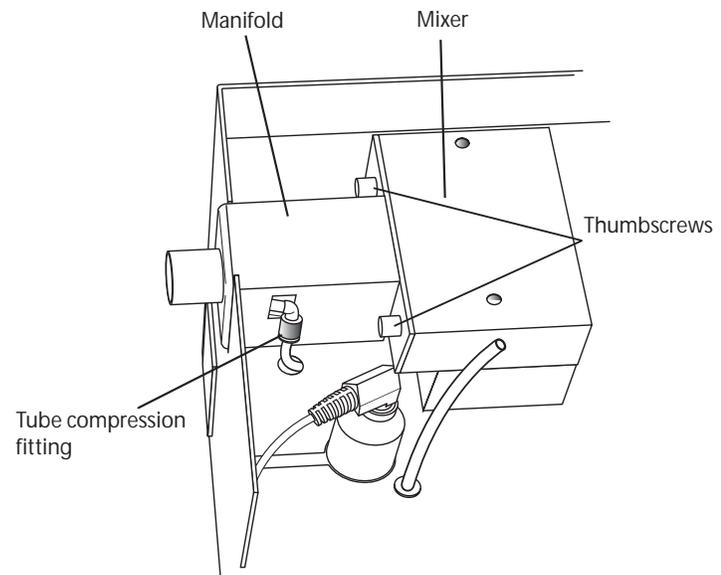
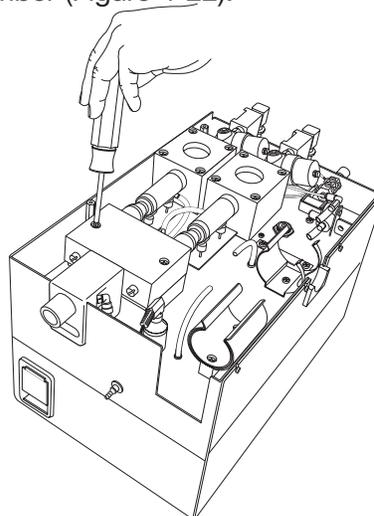
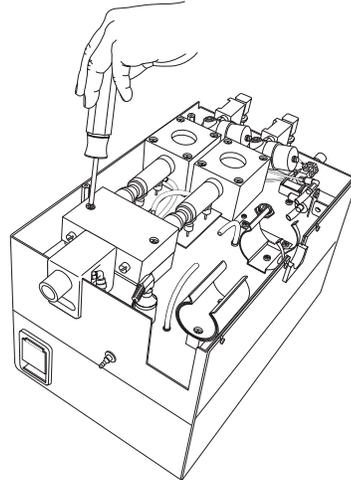
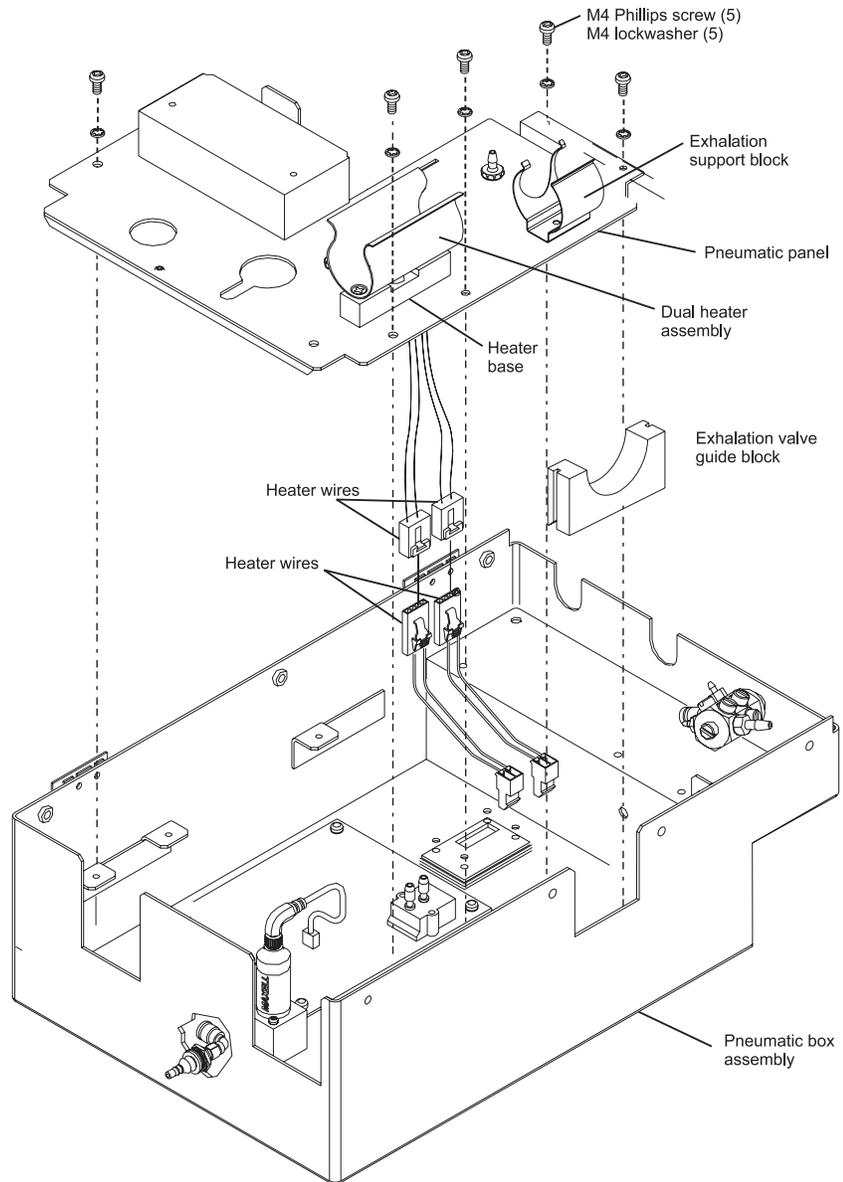

Figure 4-19
Figure 4-22
Figure 4-26 Release mixer assembly
Figure 4-29 Removal of the Pneumatic Panel
- 2 Refer to Figure 4-19 and remove the two thumbscrews and washers that hold the manifold to the mixing chamber.
Open the Top Cover (Figure 4-2) and remove the Exhalation Module and Flow Sensor Cover (Figures 4-5 and 4-6). Remove the Inspiratory Manifold (see Figures 4-19 and 4-20 and associated text).
- 1 Remove the two screws and washers securing the mixing chamber (Figure 4-22).
Remove the two screws and washers from the back corners of the pneumatics (upper) box. Remove the one screw and washer from the Exhalation Manifold Support Bracket and remove the bracket. Remove the two standoffs and washers at the front corners of the pneumatics (upper) box securing it to the electronics (lower) box (see Figure 4-7). Remove the manifold/mixer assembly and the flow sensors and flow sensor cables (see Figures 4-26 and 4-27).
Remove the Top Cover (Figure 4-2) and the Exhalation Module (Figure 4-5), Flow Sensor Cover (Figure 4-6), Inspiratory Manifold (Figure 4-19 and 4-20), Mixing Chamber (Figure 4-22 and 4-23), and Air and Oxygen Flow Sensors (Figure 4-26 and 4-27).
Refer to Figure 4-29 as you follow these steps.
Open the Top Cover (Figure 4-2) and remove the Exhalation Module (Figure 4-5), Flow Sensor Cover (Figure 4-6), Inspiratory Manifold (Figure 4-19 and 4-20), Mixing Chamber (Figure 4-22 and 4-23), and Air and Oxygen Flow Sensors (Figure 4-26 and 4-27), and the Pneumatic Panel (Figure 4-29).
Remove the Top Cover (Figure 4-2) and the Exhalation Module (Figure 4-5), Flow Sensor Cover (Figure 4-6), inspiratory manifold (Figure 4-19 and 4-20), mixing chamber (Figure 4-22 and 4-23), and air and oxygen flow sensors (Figure 4-26 and 4-27), and the pneumatic panel (Figure 4-29).